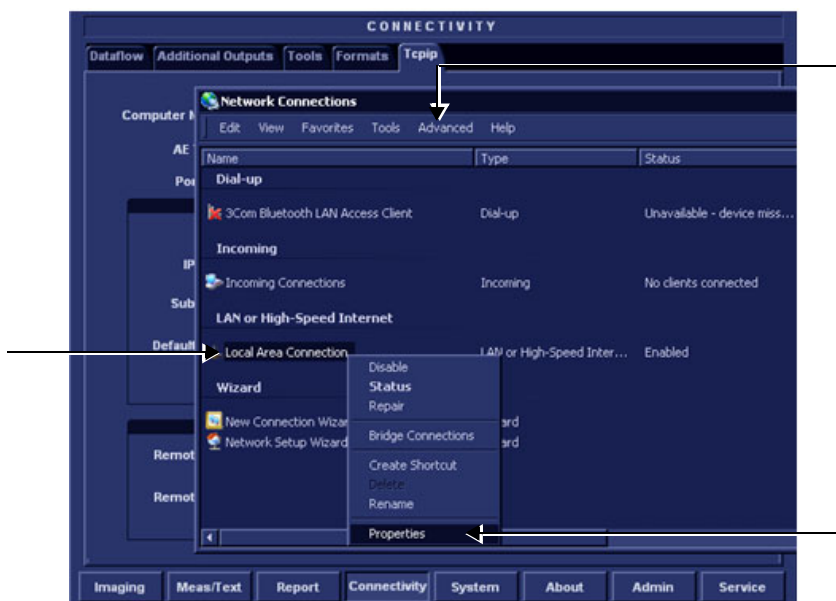

Figure 3-112 Connectivity Dialog Box - TCPIP Advanced Tab
- 5.) Select the **Local Area Connection**, as shown in Figure 3-112.